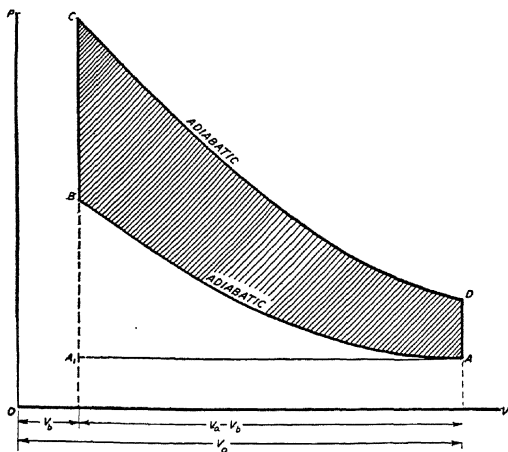

Fig. 23
Referring to Fig. 23, the PV -diagram of the Otto cycle, the cycle starts at point A_1 with the piston at the end of its stroke and ready to begin the out stroke, or the movement toward the crankshaft end of the cylinder. The horizontal distance from A_1 to the
The closed part of the PV -diagram is cross-hatched in Fig. 23 and represents the net work of the cycle in foot-pounds. The actual heat cycle in reality starts at point A , and going through points B , C , and D returns to A .
Solution. (a) It will be necessary to obtain a relationship between V_a and V_b (See Fig. 23), which can be done by evaluating in formula (115)